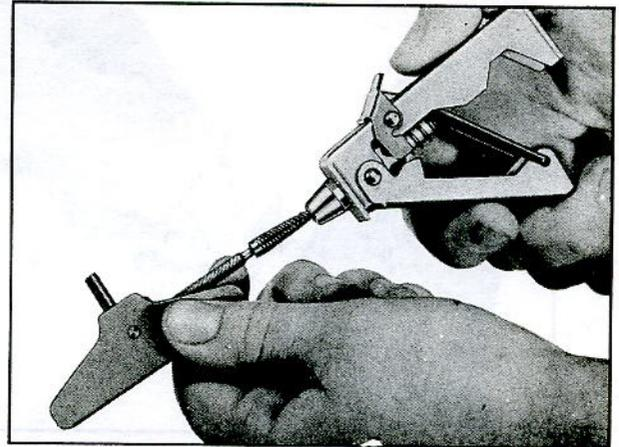

Fig. 17—Piercing Cement Cartridge
- c. Remove cleaning needle from the puncture and pierce cartridge with point of needle inserted through the nozzle of the tool. Enlarge the opening by twisting (fig. 17).